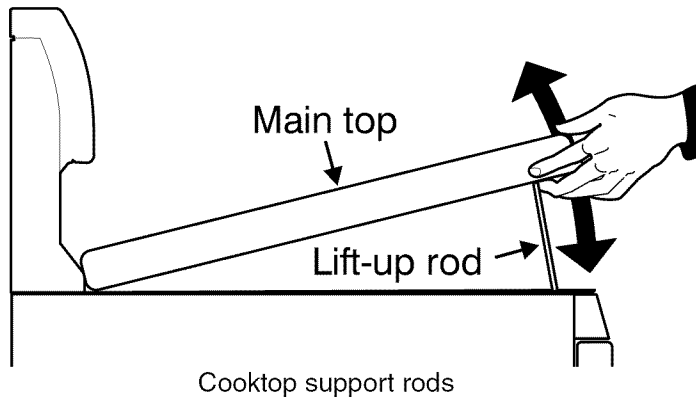

Fig. 1
2. Grasp the sides of the cooktop and then lift from the front (See Fig. 1)